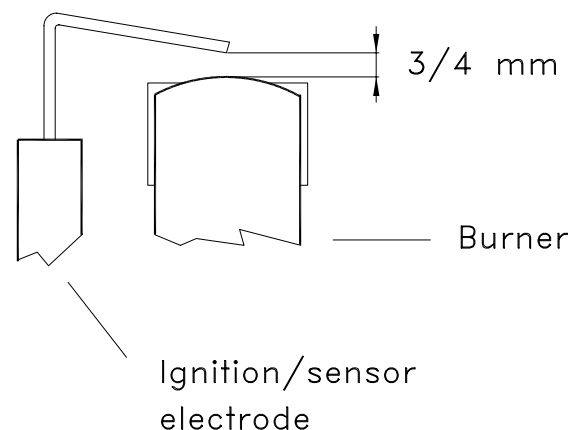

Fig. 38
**7.2.6** Inspect the burner and remove any deposit with a soft brush. Check the electrodes for damage or deterioration, clean or renew as necessary. Ensure that the spark gaps are correct to dimensions specified in fig. 38.